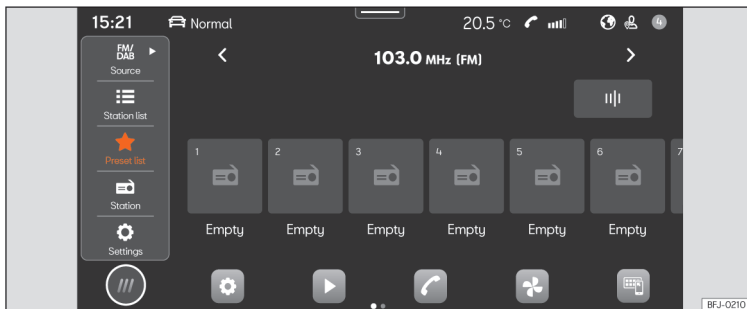

Fig. 137 Schematic diagram: Radio view.
- Press **HOME** > >>> **Fig. 137**.